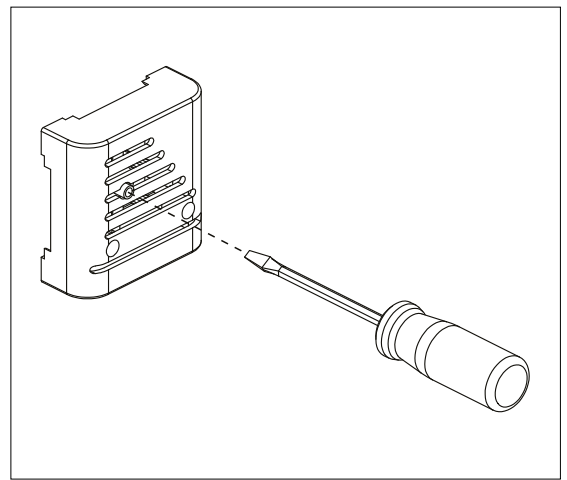

Figure 7.14-1 Reactivation of the overheat protector
- The overheat protector of the heater has tripped: **the cause of the overheat protection tripping must be determined!** The overheat protector can be reactivated by pressing the temperature sensor (Figure 7.14-1).